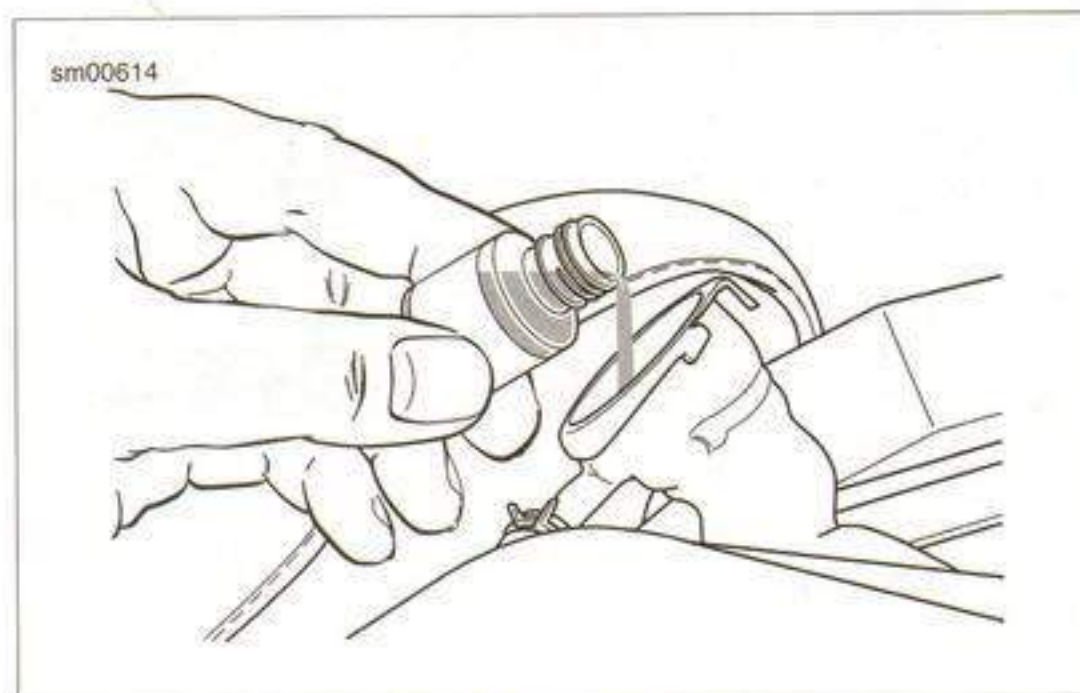

Figure 5-6. Pouring Dye into Filler Neck (typical)
4. See Figure 5-6. Pour COOLANT FLUORESCENT LEAK DETECTION DYE (Part No. HD-29545-6) into filler neck.